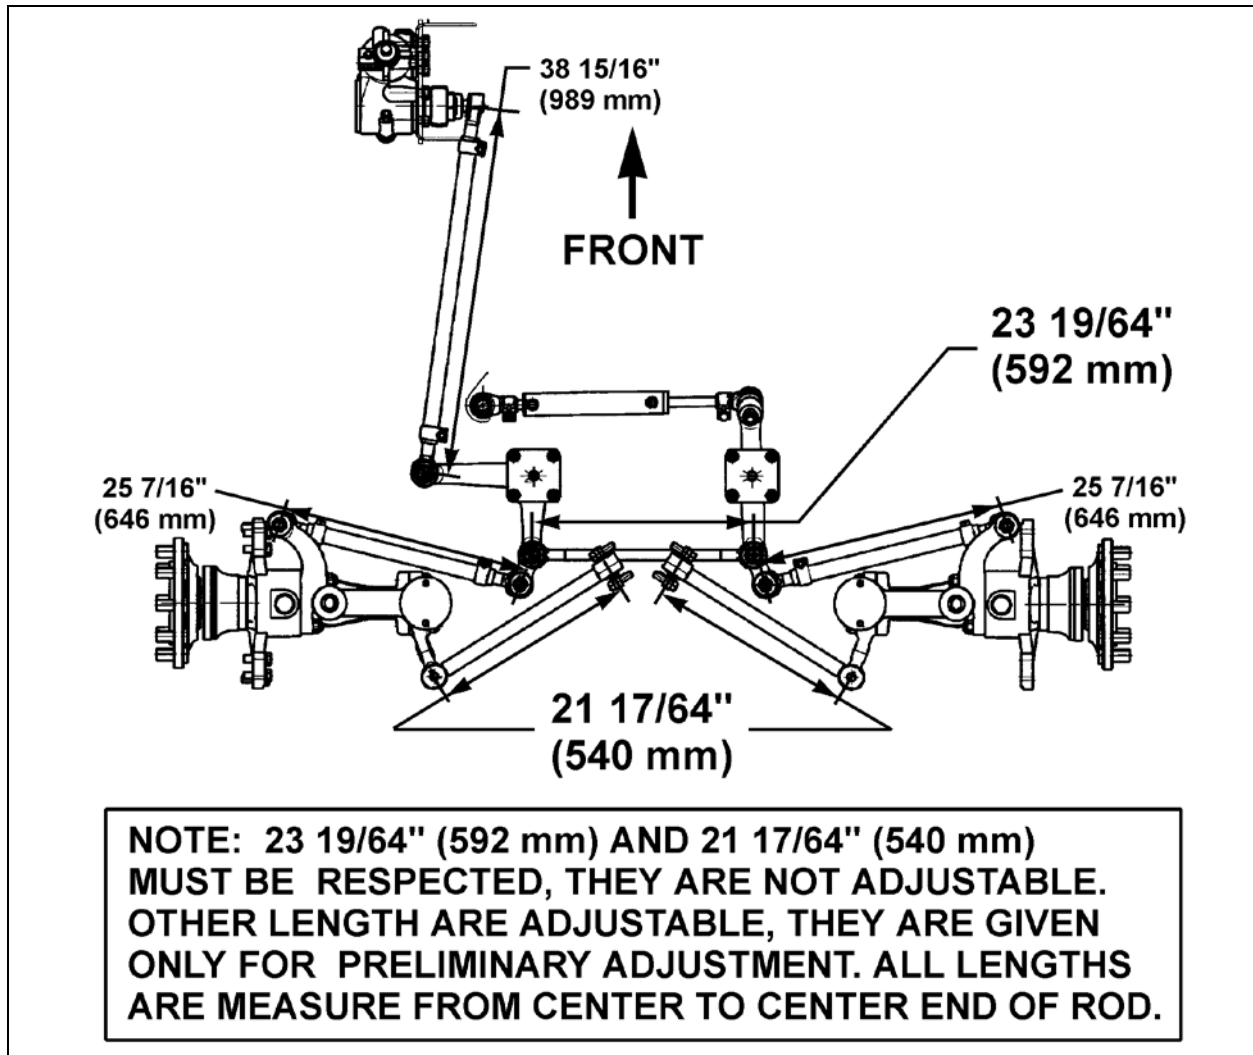

FIGURE 31: STEERING LINKAGE MEASURE
7. Check if the length of the torque rod is 21 17/64" (540 mm) (Fig. 31). Check if the length of the relay rod is 23 19/64" (592 mm).